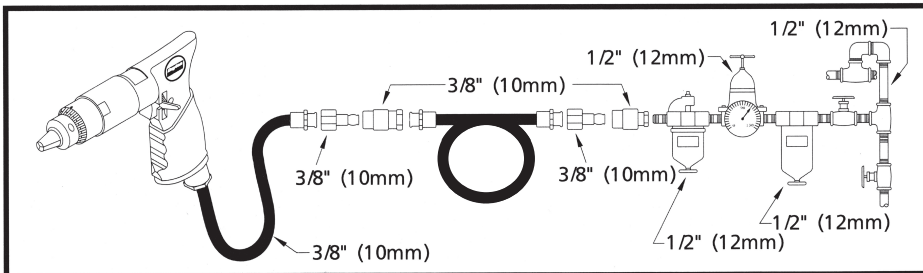

Figure 2 - Air Diagram
1. Supply tool with 90 PSI of clean, dry air. Higher pressure drastically reduces tool life. Connect tool to air line using pipe, hose and fitting sizes shown in Figure 2.
Never direct air at yourself or anyone else. Whipping hoses can cause serious injury. Always check for damaged or loose hoses and fittings. Do not use quick disconnect couplings at tool. See Figure 2 for correct set-up.